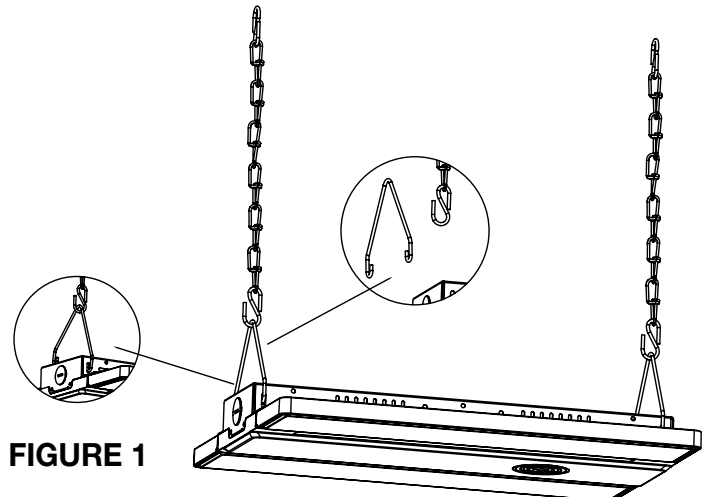

FIGURE 1
1. Hook up the chain; (Figure 1)
2. Connect the chain with fixture; (Figure 1)
3. Fix the chain on the rail, adjust the chain length as per need; (Figure 1)